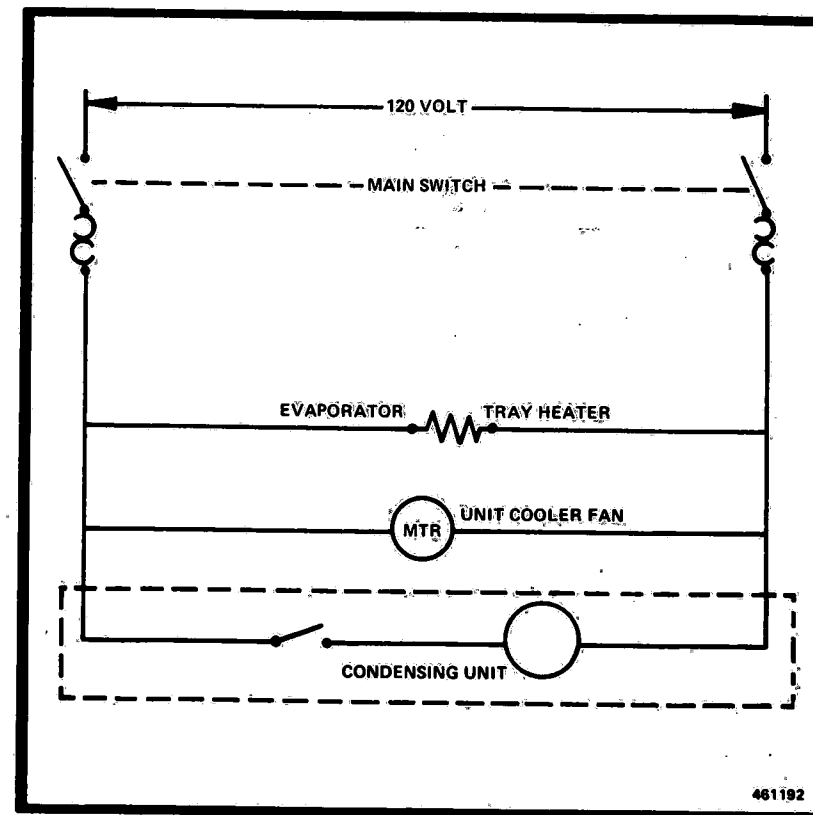

Figure 3-2. REFRIGERATION UNIT ELECTRICAL SCHEMATIC.
3. Use electrical schematic (Fig. 3-2) as an aid in locating and understanding operation of the Refrigeration Unit.